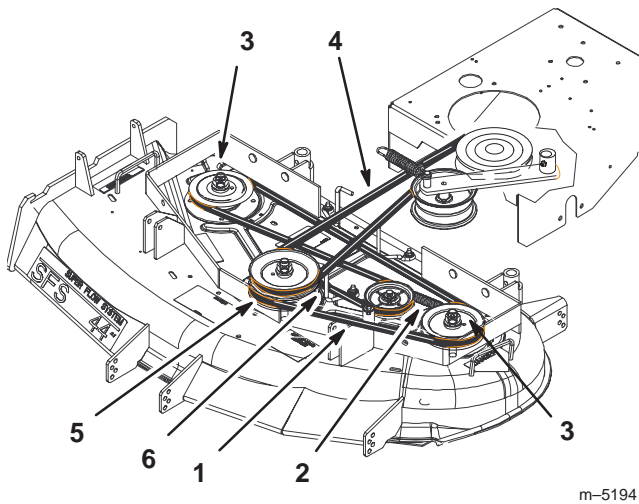

Figure 64
- Disconnect the idler arm spring to relieve tension on the idler arm and idler pulley, then remove the worn deck belt (Fig. 64).
- Install the new deck belt around the two outside spindle pulleys, the idler pulley, and in the lower groove of the center spindle pulley (Fig. 64).
- Connect the idler arm spring (Fig. 64).
9. Adjust deck belt guide an 1/8 in. (3 mm) from belt (Fig. 64).